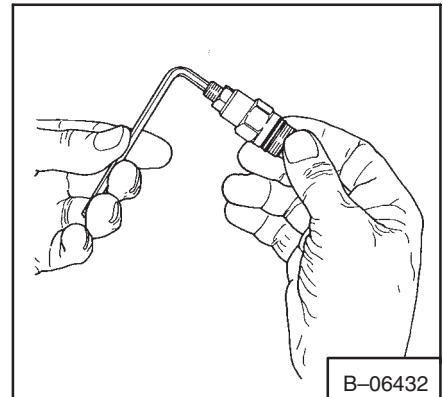

Fig. 2-23a Adjusting The Relief Valve
4. Use an allen wrench to adjust the relief valve (Fig. 2-23a). Turn clockwise to increase the pressure; turn counterclockwise to decrease the pressure.